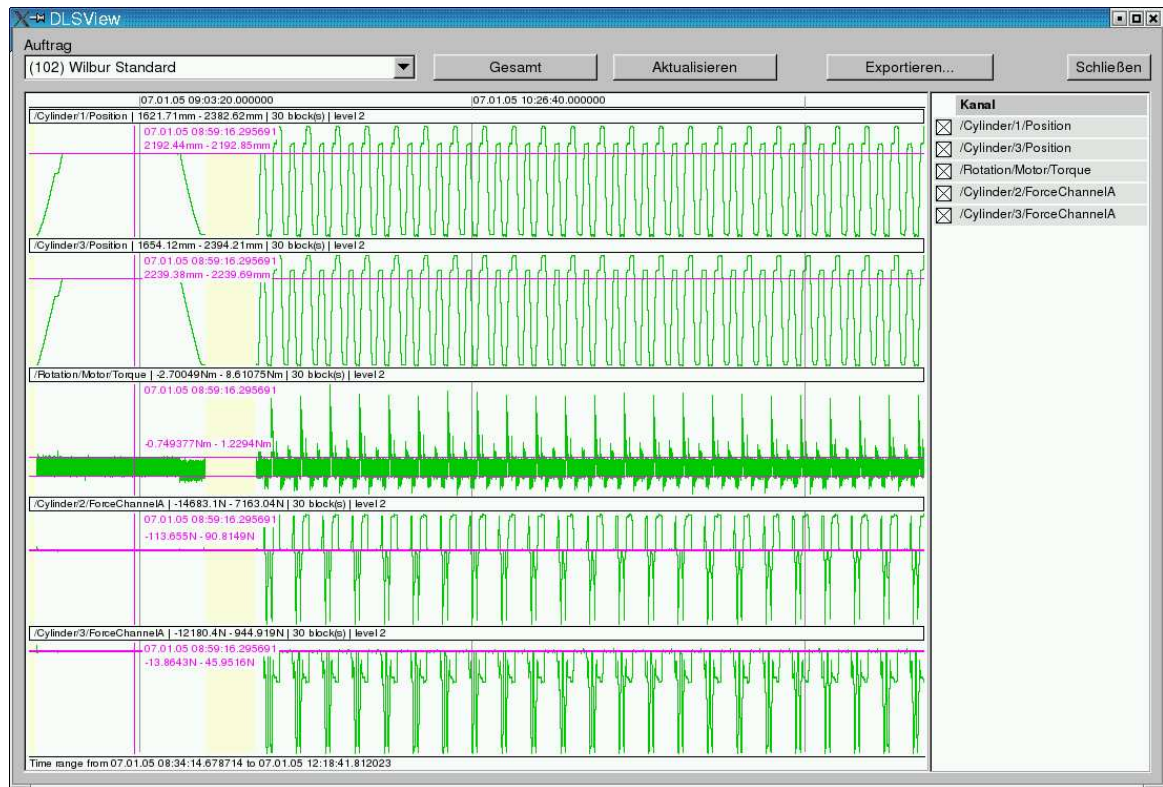

Figure 5.2.: Scan lines with the *Ctrl* button held down
- If no data were acquired in a certain time span, this zone of the channel line concerned is displayed with a yellow background (see Figure 5.2).
- If the data area has the keyboard focus, pressing the *Ctrl* button will draw a vertical “scan line” at the point in time to which the mouse cursor points (see Figure 5.2). If this line crosses a displayed curve, the data value at the point of intersection will be displayed.
As the scan line is not infinitely narrow, possibly many data values will fall in the area covered by it. In this case the entire value area of the values that are present “under” the scan line will be marked by two horizontal lines corresponding to the minimum and maximum (see 3rd channel in Figure 5.2).